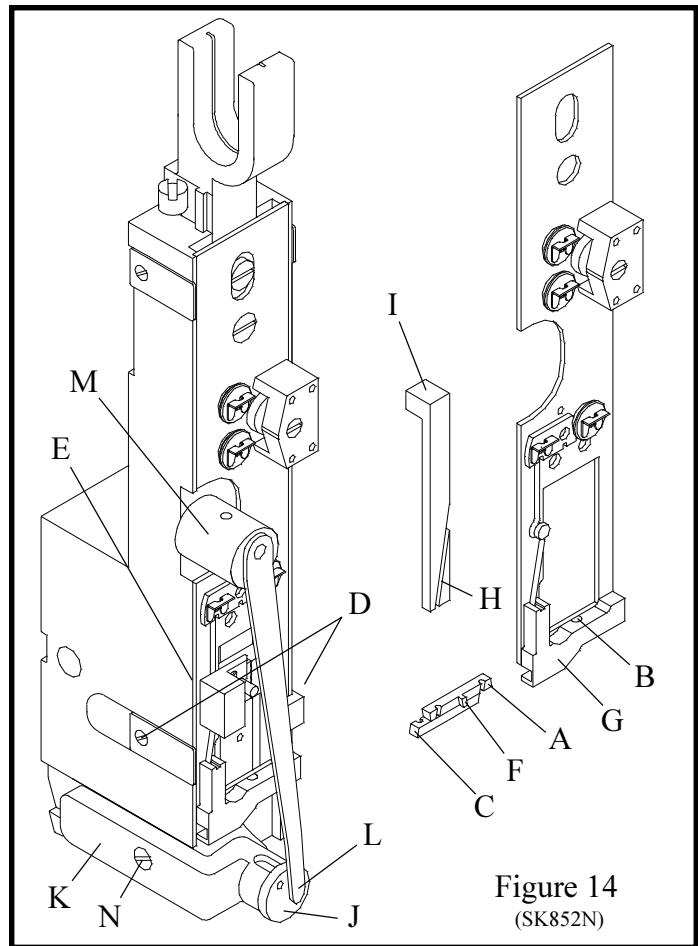

Figure 14
J. Wire Cutters: (Figure 14)
3. Lift end of spring (Index L, Figure 14) out of rotator.
5. Slip the rotator operating cam (Index M, Figure 14) forward and off the stud.
11. Remove the cutter operating slide (Index I, Figure 14).
M. Rotator (Figure 14)
The rotator holder and rotator operating spring are responsible for alignment of the wire beneath the bender bar grooves. The position of the rotator holder determines how far the rotator is pushed forward under the bender bar by the rotator operating spring (Index L, Figure 14). A weak spring will not push the rotator in far enough and with this improper alignment the bender bar will knock the wire from the rotator or will shear the wire into pieces. To secure proper alignment, check the position of the rotator holder and the tension applied by the rotator operating spring. Make any necessary adjustment of the rotator holder or replace the rotator operating spring if weak.
3. Loosen the rotator holder screw (Index N, Figure 14).